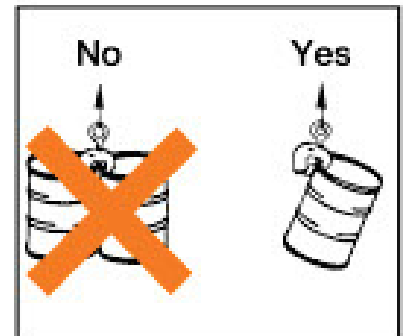

Figure 59
**WARNING!** Do not lift more than one drum per clamp (Fig. 59).